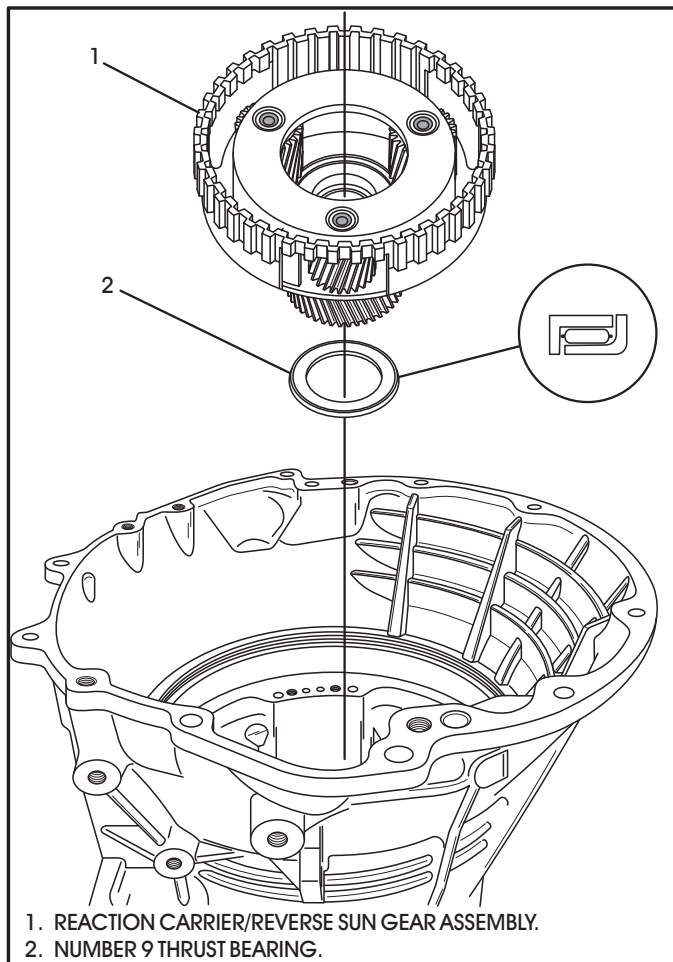

Figure 115
23. Install the number 9 thrust bearing onto to back side of the reaction carrier/reverse sun gear assembly, in the direction shown in Figure 115, and retain with a small amount of TransJel®.
24. Install the reaction carrier/reverse sun gear assembly, with bearing, into the transmission by rotating into position (See Figure 115).